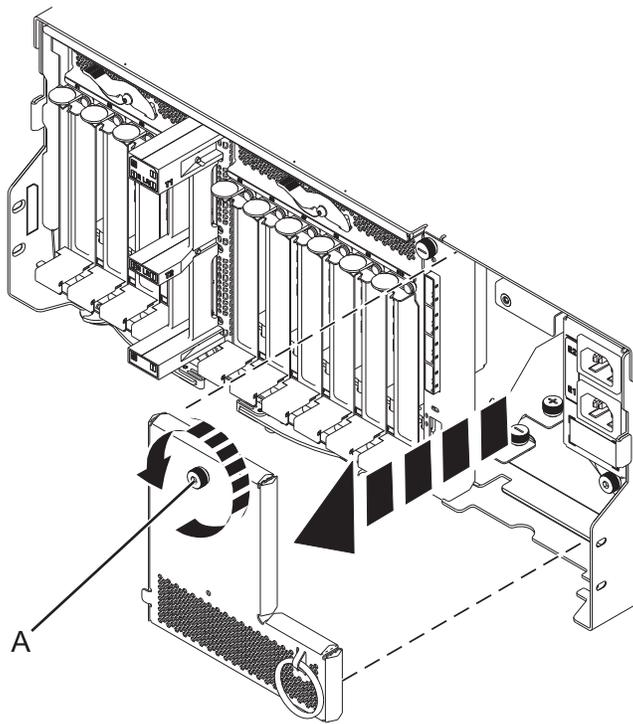

Figure 83. Removing the power cord plate
9. Remove the power cord plate by turning the thumbscrew (A) and pulling the plate away from the system, as shown in Figure 83.